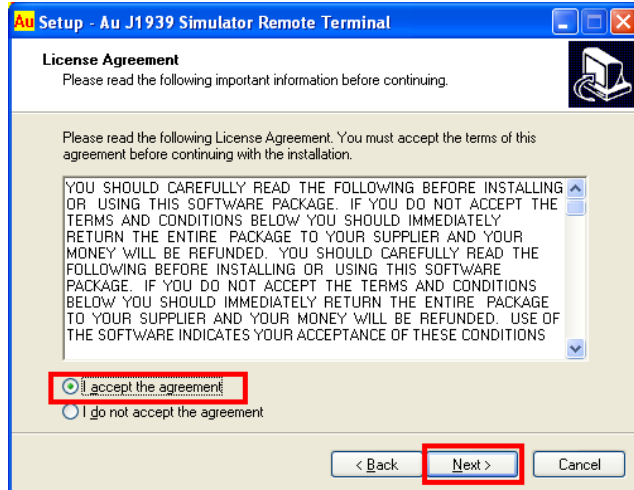

Figure A-4
4. “License Agreement” window pop up, please read the license agreement and select “I accept the agreement”, click “Next” to continue (figure A-4).